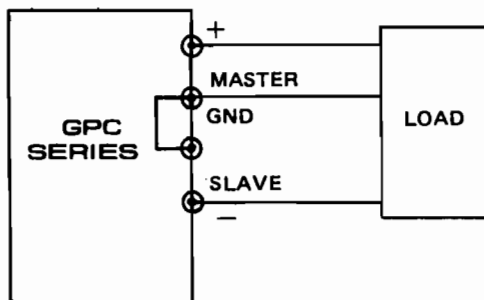

Fig. 5-4 Positive and Negative Supply
G. If the chassis or common of the equipment being powered is separate from both the positive and negative polarity power inputs. The output of the SLAVE (negative) supply tracking the output of the MASTER (positive) supply, the configuration as shown in Fig. 5-4.